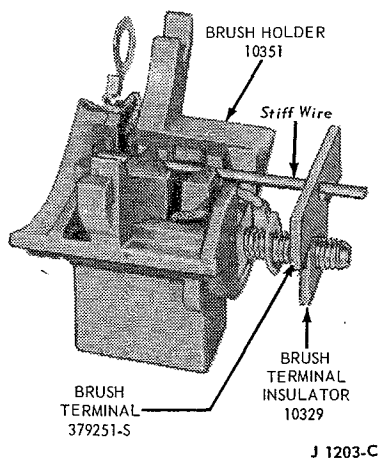

FIG. 14 Brush Holder Assembly
- Place the brush springs, brushes, brush terminal and terminal insulator in the brush holder and hold the brushes in position by inserting a piece of stiff wire in the brush holder as shown in Figure 14.